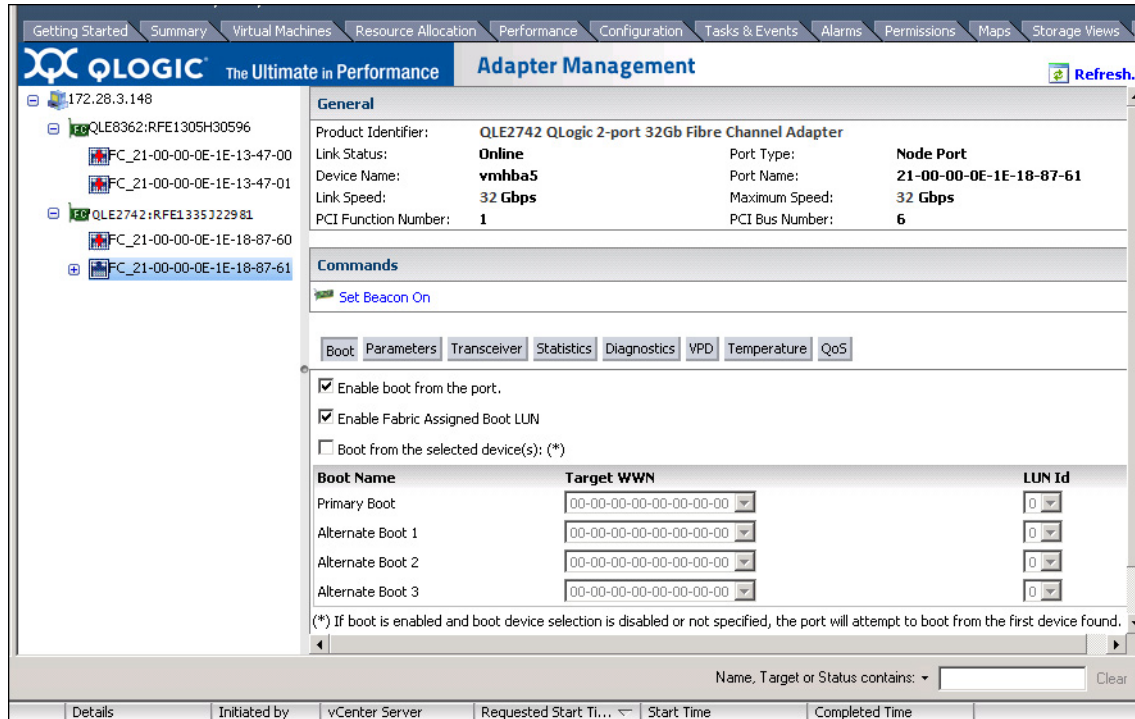

Figure 3-9. Fabric-Assigned Boot LUN in QConvergeConsole Plug-in for VMware vCenter Server
- On the Boot page, select the **Enable Fabric Assigned Boot LUN** check box. Figure 3-9 shows an example.